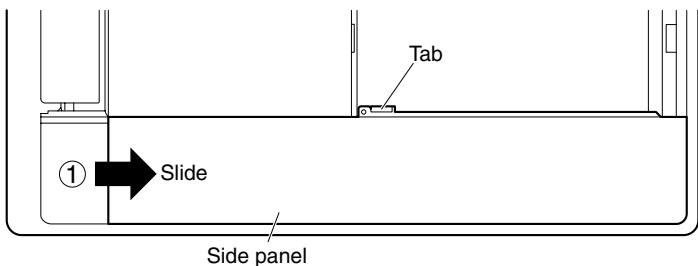

Fig. 3-74
Grasp the finger grip on the side panel and slide the panel in the direction of arrow ① to remove the panel. (Fig. 3-74)